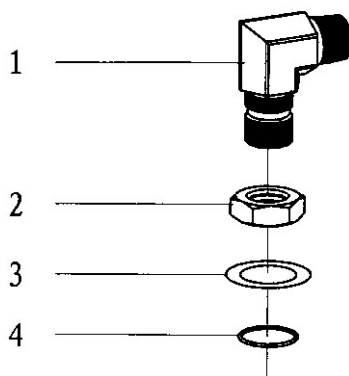

Fig 17
7.14. Bend adaptor(1 5/16-12UN) (Fig 17, Table16)